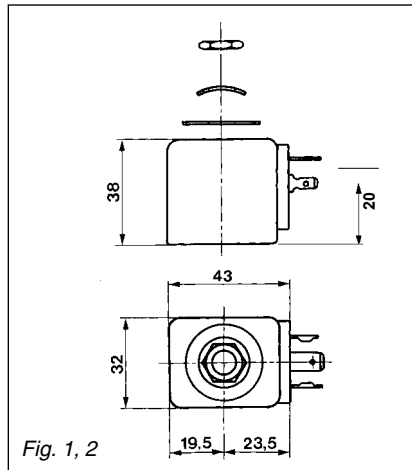

Fig. 1, 2
**Closed:** The letter "C" is in the upper position of the screw head (fig.1, 2)
**Open:** The letter "A" is in the upper position of the screw head (fig.1, 2)